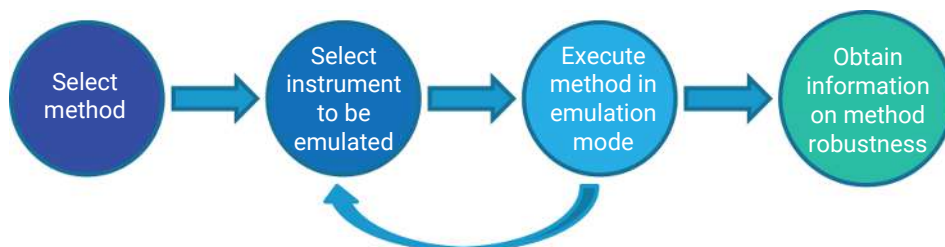

Figure 3: Method robustness testing
- Method robustness testing, see Figure 3 on page 7